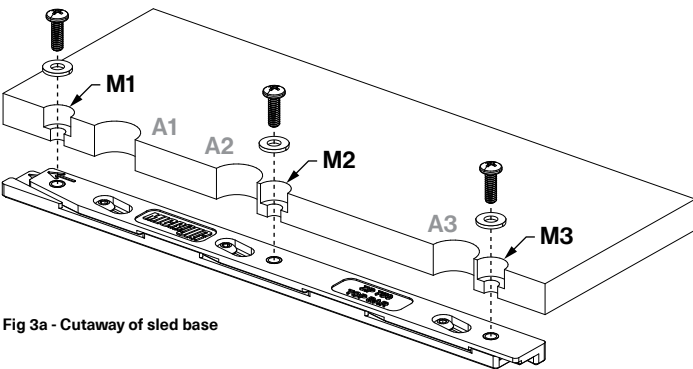

Fig 3a - Cutaway of sled base
- For 1/2" thick sled bases: (3x) 1/2" pan head screws (E) OR
- For 3/4" thick sled bases: (3x) 3/4" pan head screws (G)Insert the pan head screws with flat washers (F) through each mounting hole (M1, M2, M3) and tighten [Fig 3a].